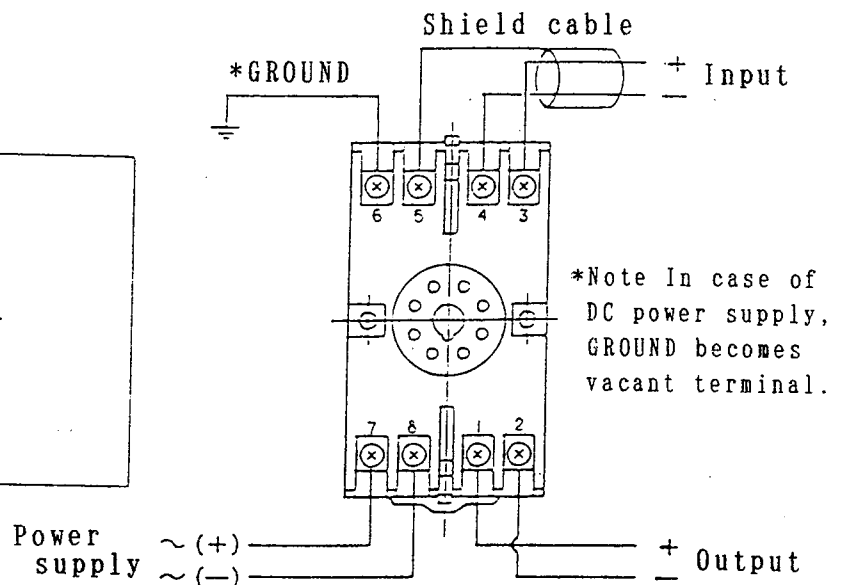

Fig.2
2. Make the connections as per the connection diagram at Fig.2 and use the cable conformable to the rated capacity of the circuit.
3. When the external noise is expected to affect the input line, it will be effective to use the shield cable for input and to connect the outer shield to S-terminal at ⑤.
4. In case that the noise is frequently generated on power line, it will be effective to ground G terminal at ⑥. But in case of DC power source, terminal ⑥ becomes NC.